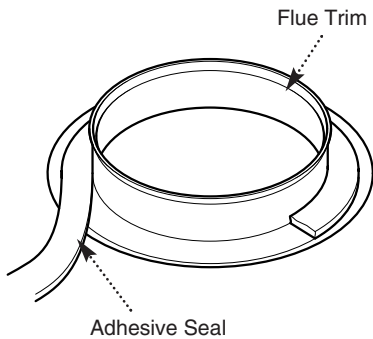

Fig. 11
2. Remove the protective backing from the adhesive seal. Apply the seal to the rear of the trim flange (Fig. 11).